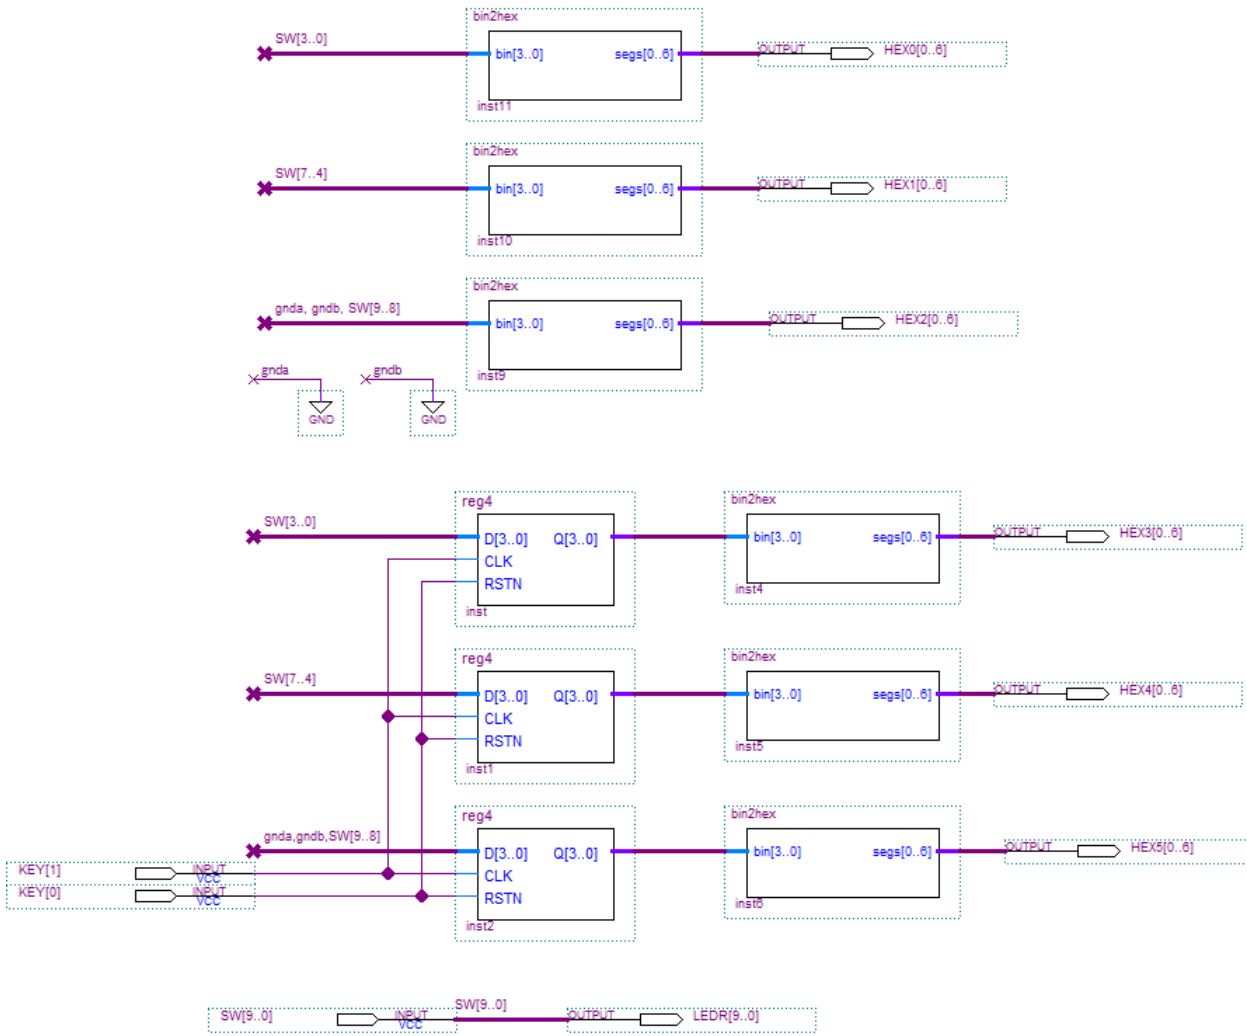

Figure 4. Top-level Schematic with Custom Symbols
- Create a symbol for your binary to hexadecimal circuit. This combinational circuit should take a 4-bit binary input and output the seven-segment display driver signals so that the corresponding hexadecimal digit is displayed. (0 1 2 3 4 5 6 7 8 9 A b C d E F). Use buses for your inputs and outputs as shown in Figure 4.
- Create a 12-bit positive edge triggered register using the embedded D flip-flops in the Altera FPGA. (Use the DFF component in the Altera library). Create a symbol for your register. (You can also implement this using 4-bit registers, if you prefer). Again, use buses for your input and output to minimize wiring, as shown in Figure 4.